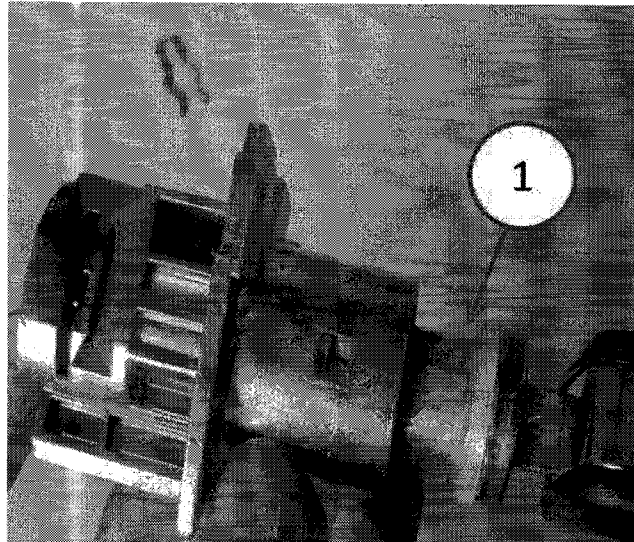

Fig. 6 Lock Cylinder Removal
8. Separate the lock cylinder (1) from its housing (Fig. 6).